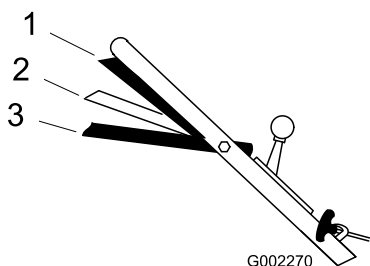

Figure 15
- Squeeze the blade control bar against the handle to the Run/Drive position (Figure 15).